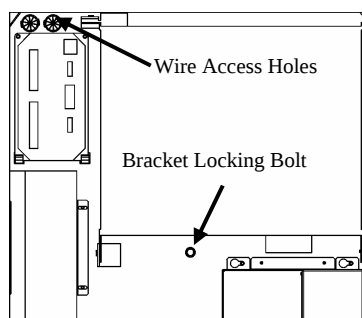

Figure 3-B – Inside View of the Top of Cabinet
1. Remove the mounting bracket locking bolt from inside the jukebox (*Figure 3-B*) to release the mounting bracket from the back of the jukebox.
3. Prepare the wiring. The power cord should be attached to the back of the jukebox near the bottom before mounting. The speaker and other wiring enter the back of the jukebox near the top of the hinge side (see *Figure 3-B*).
5. Lift the cabinet onto the wall bracket. It will have to be lifted about 2" higher than its intended height. Keep it centered within the tape lines and keep the back flat against the wall, while slowly lowering it onto the bracket. When it has dropped into the slots, replace the bracket locking bolt (see *Figure 3-B*). This prevents the unit from being lifted back off of the wall bracket.